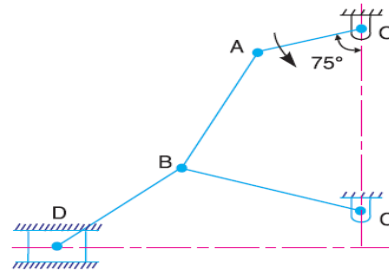

Fig. 7.9
- In Fig. 7.9, the angular velocity of the crank OA is 600 r.p.m. Determine the linear velocity of the slider D and the angular velocity of the link BD, when the crank is inclined at an angle of 75° to the vertical. The dimensions of various links are : OA = 28 mm ; AB = 44 mm ; BC 49 mm ; and BD = 46 mm. The centre distance between the centres of rotation O and C is 65 mm. The path of travel of the slider is 11 mm below the fixed point C. The slider moves along a horizontal path and OC is vertical. (10M)